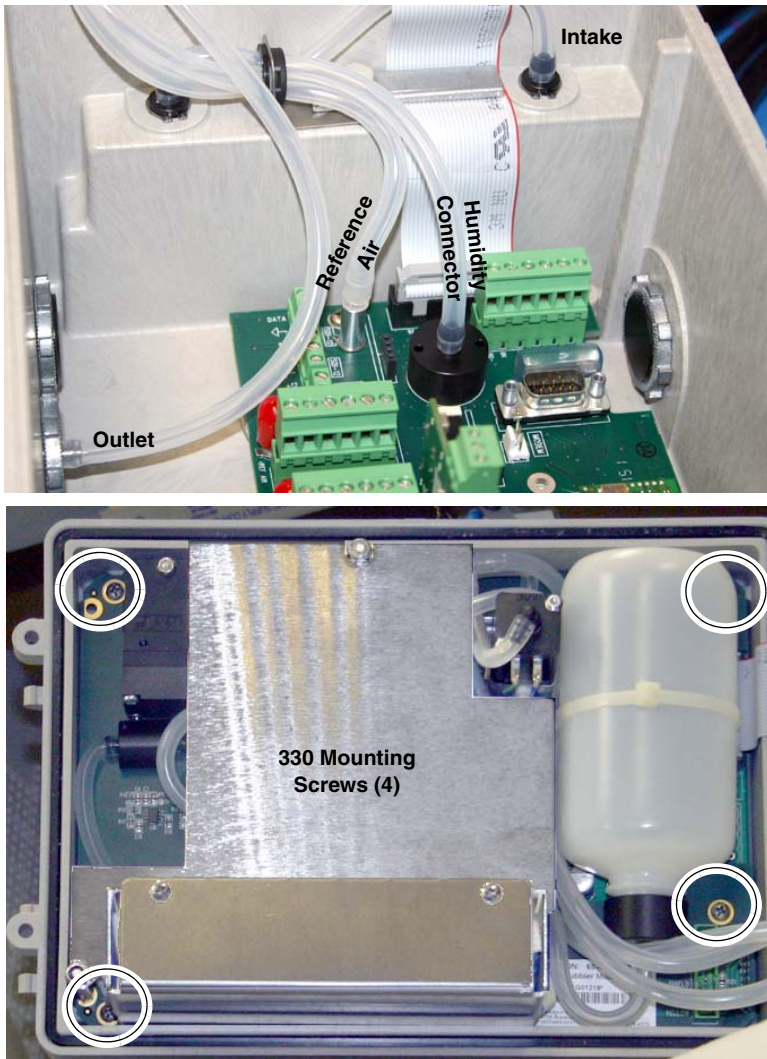

Figure 4-8 Disconnect and remove bubbler module
2. To ensure that the bubble line tubing is reconnected correctly, label the tubing ends as shown below in Figure 4-8, then remove the four mounting screws holding the 330 bubbler in place and set it aside.